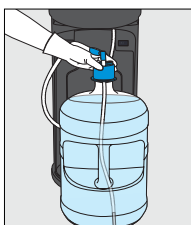

Figure 19
7. Slide the bottle adaptor over the neck of the bottle and push down to secure (Figure 19)